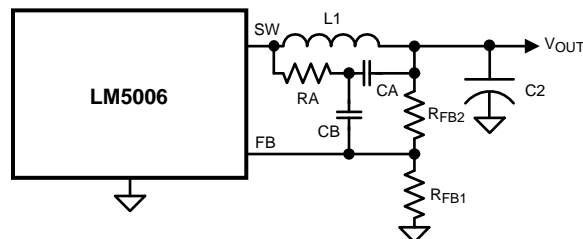

Figure 39. Minimum Output Ripple Using Ripple Injection
**b) Minimum ripple configuration:** If the application requires a lower value of ripple (<10 mVp-p), the circuit of Figure 39 can be used. R3 is removed, and the resulting output ripple voltage is determined by the inductor's ripple current and C2's characteristics. RA and CA are chosen to generate a sawtooth waveform at their junction, and that voltage is AC-coupled to the FB pin via CB. To determine the values for RA, CA and CB, use the following procedure: